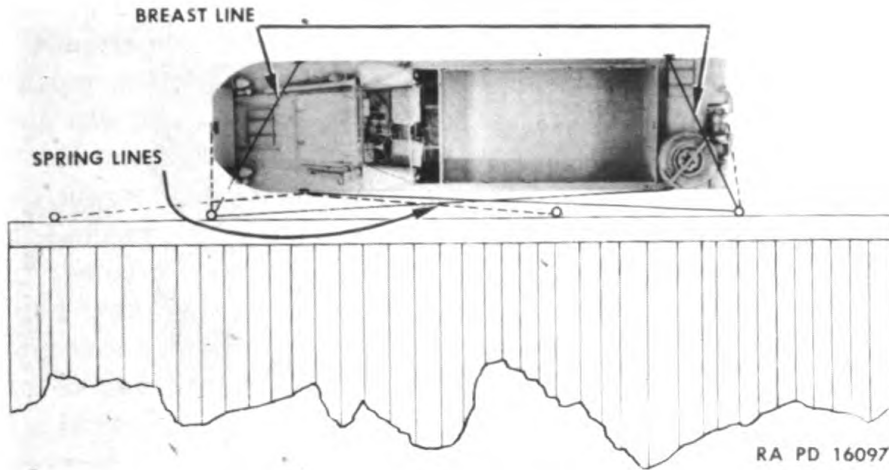

Figure 15—Method of Mooring Vehicle
(1) Anchor, stowed in bow compartment, is used with interconnecting winch cable or other lines to hold vehicle to bottom. When anchor bottoms, flukes or points of anchor, fasten to bottom, thus holding vehicle stationary.
(2) Do not fasten anchor shackle to winch cable hook. Remove anchor shackle bolt, and fasten shackle into chain ring. Install bolt and tighten. Remember the anchor **must** be fastened securely to line or cable **before** dropping it overboard.
(3) As anchoring is generally necessary under emergency conditions, all available line and cable should be connected to anchor, as the longest line will provide safest anchoring.
(4) Under emergency conditions, any bulky, heavy object can be used as an anchor, such as spare tire and wheel, etc.
(5) If unable to bottom anchor in extremely deep water, additional bulky object can be let down into the water. The tarpaulin, with enough ballast in it to keep it under water, can be used. This type of "sea anchor" will reduce drifting.
b. Mooring. In extremely rough weather, avoid mooring alongside a dock or vessel; however, if necessary to moor, long mooring lines should be used to reduce strain. Bow or front of vehicle should head into current unless wind is stronger than current, in which case head bow into wind. Fig. 15 illustrates method of mooring vehicle to dock with the use of breast lines at front and rear, and spring lines from front and rear of vehicle to dock as shown. These lines should hold vehicle without pulling against dock. It is necessary, however, to